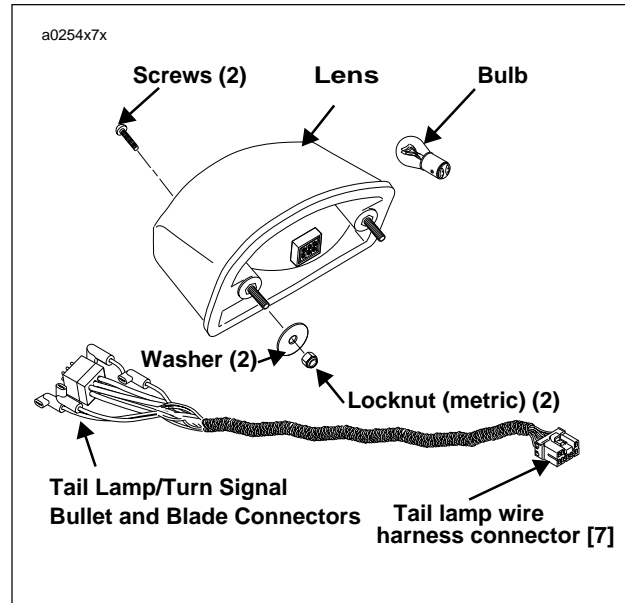

Figure 7-68. Tail Lamp
1. See Figure 7-68. Remove two screws and lens.
1. See Figure 7-68. Disconnect the 6-place tail lamp connector from rear of tail lamp under tail section.
1. See Figure 7-68. Attach tail lamp to tail section with two washers and locknuts (metric). Tighten locknuts to 23-28 **in-lbs** (2.6-3.2 Nm).
2. See Figure 7-68. Attach the 6-place tail lamp connector to the back of the tail lamp.